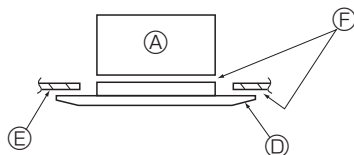

Fig. 10-7
* Make sure that there are no gaps between the main unit and the panel or the panel and the ceiling. (Fig. 10-7)